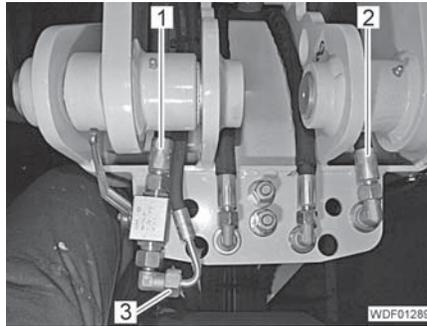

Fig. 310 Hydraulic lines
- Unscrew and close off the hydraulic lines (Fig. 310,1 to 3).
- Screw the hydraulic lines (Fig. 310,1 to 3) onto the connections on the front carriage and tighten.